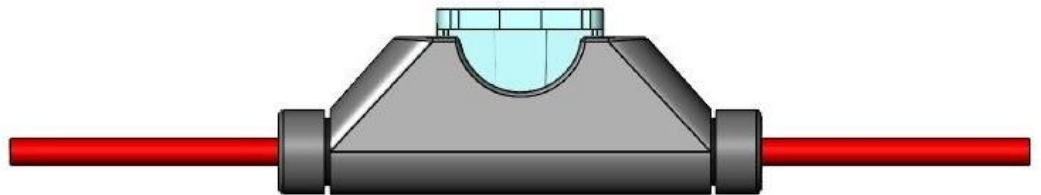

Figure 3 – Posi-Lock Fuse Holder Installation
2. Within 12 inches of the battery, cut the wire and install the Posi-Lock Fuse Holder. Figure 3 below shows the proper steps on how to install the fuse holder.